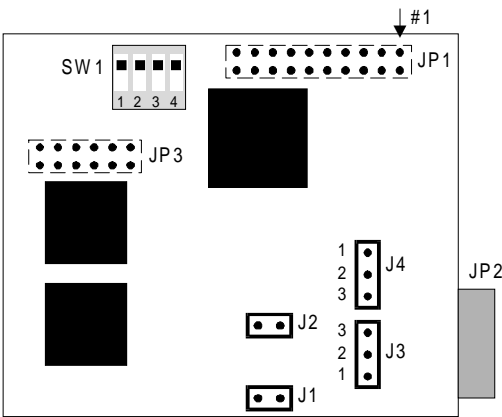

Fig. A-1. On-board connectors, configuration jumpers and switches for *T/SDAS-SCOM2* module.
*T/SDAS-SCOM2* module (fig.1-1, fig.A-1) meets standard SIOX rev.B daughter-card form-factor. Construction of *T/SDAS-SCOM2* module assumes that host *TORNADO* DSP system with *T/SDAS-SCOM2* module installed fits into one ISA-bus slot of PC chassis.
Connection of *T/SDAS-SCOM2* module to external audio equipment is performed by means of on-board JP2 connector (fig.A-1) and a variety of standard audio cable sets and external telephone line/station interface options.
The on-board connectors, configuration jumpers and switches are presented at fig.A-1.